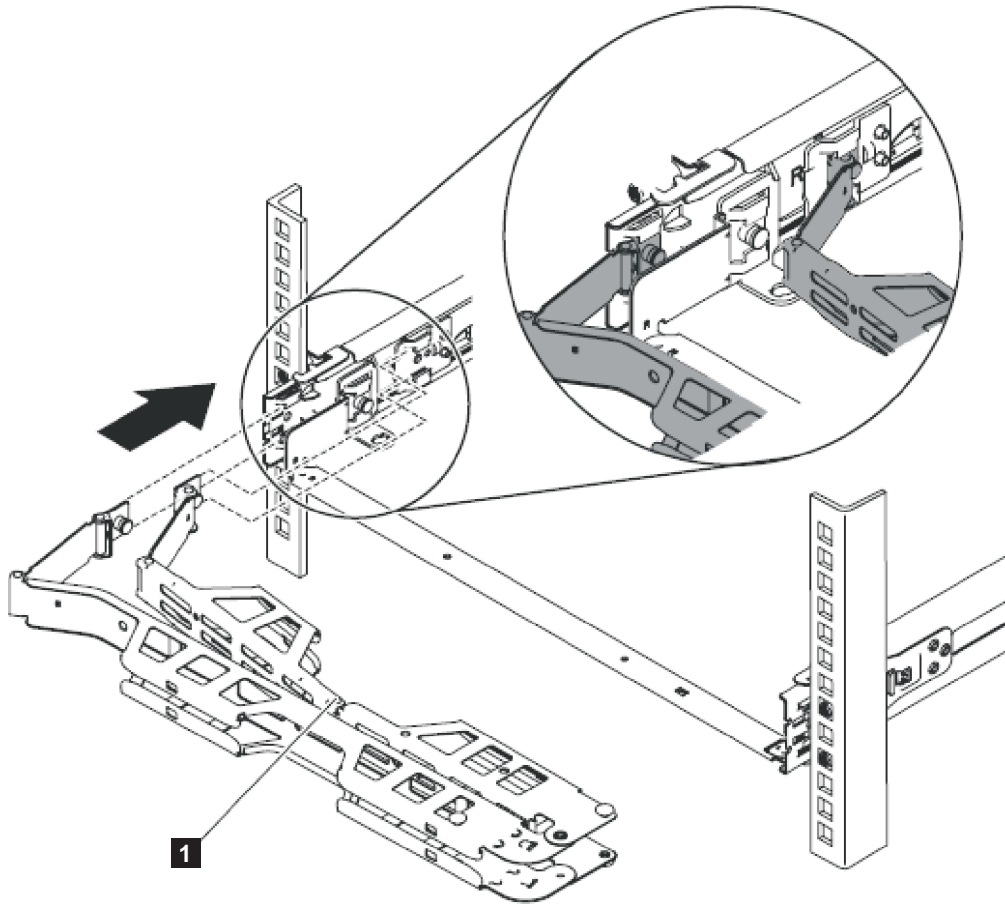

Figure 27. Installing the cable-management arm
2. Install the cable management arm, as shown in Figure 27 on page 27.
**Note:** Make sure that the junctions on the arm, as shown by **1** in Figure 27, are facing the SAN Volume Controller 2145-CF8.